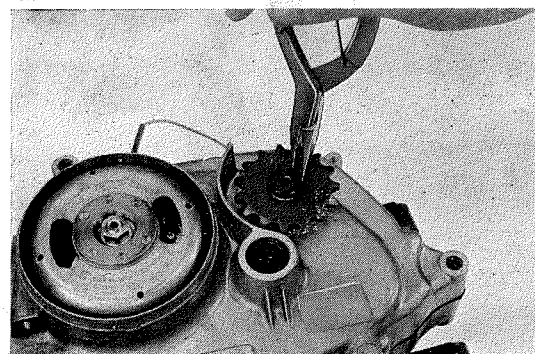

Fig. 48 Drive sprocket removal
3. Remove 20 mm circlip to remove the drive sprocket. (Fig. 48)